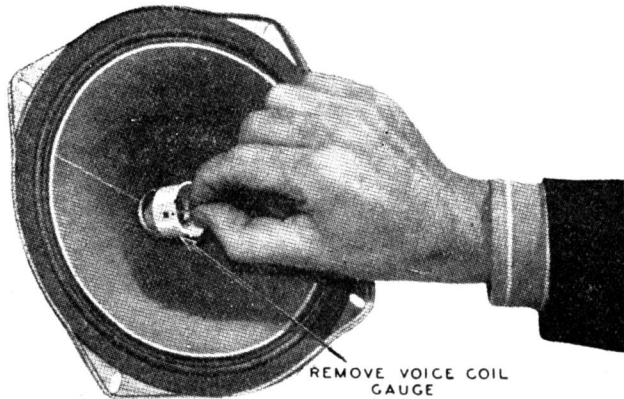
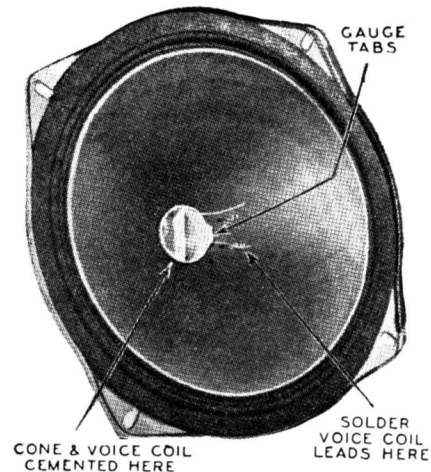
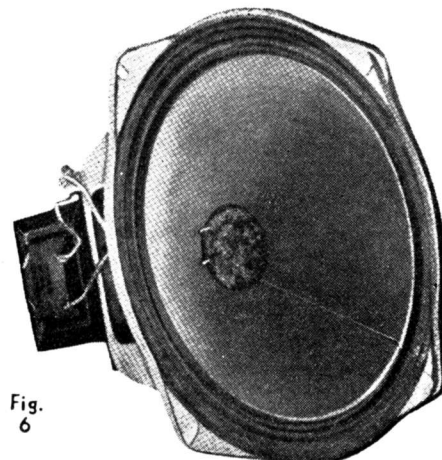

Fig. 5
Fig. 4
Fig. 6
Fig. 3. Fig. 4 illustrates the cone assembled on the voice coil, and the points to be cemented or soldered. The removal of the voice coil gauge is shown in Fig. 5, and the completed cone assembled in the speaker is shown in Fig. 6.
D. With the voice coil in place, apply cement to the cone mounting edge (see Fig. 2). Insert the cone over the voice coil, with the two voice coil leads facing the two cone leads as shown in Fig. 4. When the cone is properly inserted, it will set about $\frac{3}{32}$ of an inch below the top edge of the voice coil.
Now, in order to attach the voice coil to the cone, apply a small bead of cement at the point where the two sections meet (see Fig. 4).
After the cement has thoroughly dried on all surfaces, solder the two voice coil wires to the cone leads at the points shown in Fig. 4, and continue with the next step.
E. Tear the two perforated tabs from the voice coil (see Fig. 4). With these tabs removed, grasp the paper centering gauge with the thumb and forefinger and pull directly out of the voice coil (see Fig. 5).
F. The small felt dust cover is now attached to the cone as shown in Fig. 6 by applying a small ring of cement around the felt about $\frac{1}{8}$ " from edge. With felt dust cover in place, the speaker is ready for use.